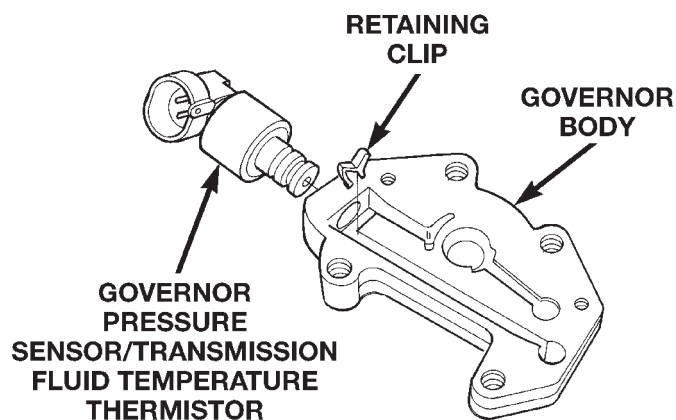

Fig. 64 Governor Pressure Sensor
(4) Disconnect wires from governor pressure sensor, if not done previously.
(5) Remove governor pressure sensor from governor body. Sensor is retained in body with M-shaped spring clip (Fig. 64). Remove clip with small pointed tool and slide sensor out of body.